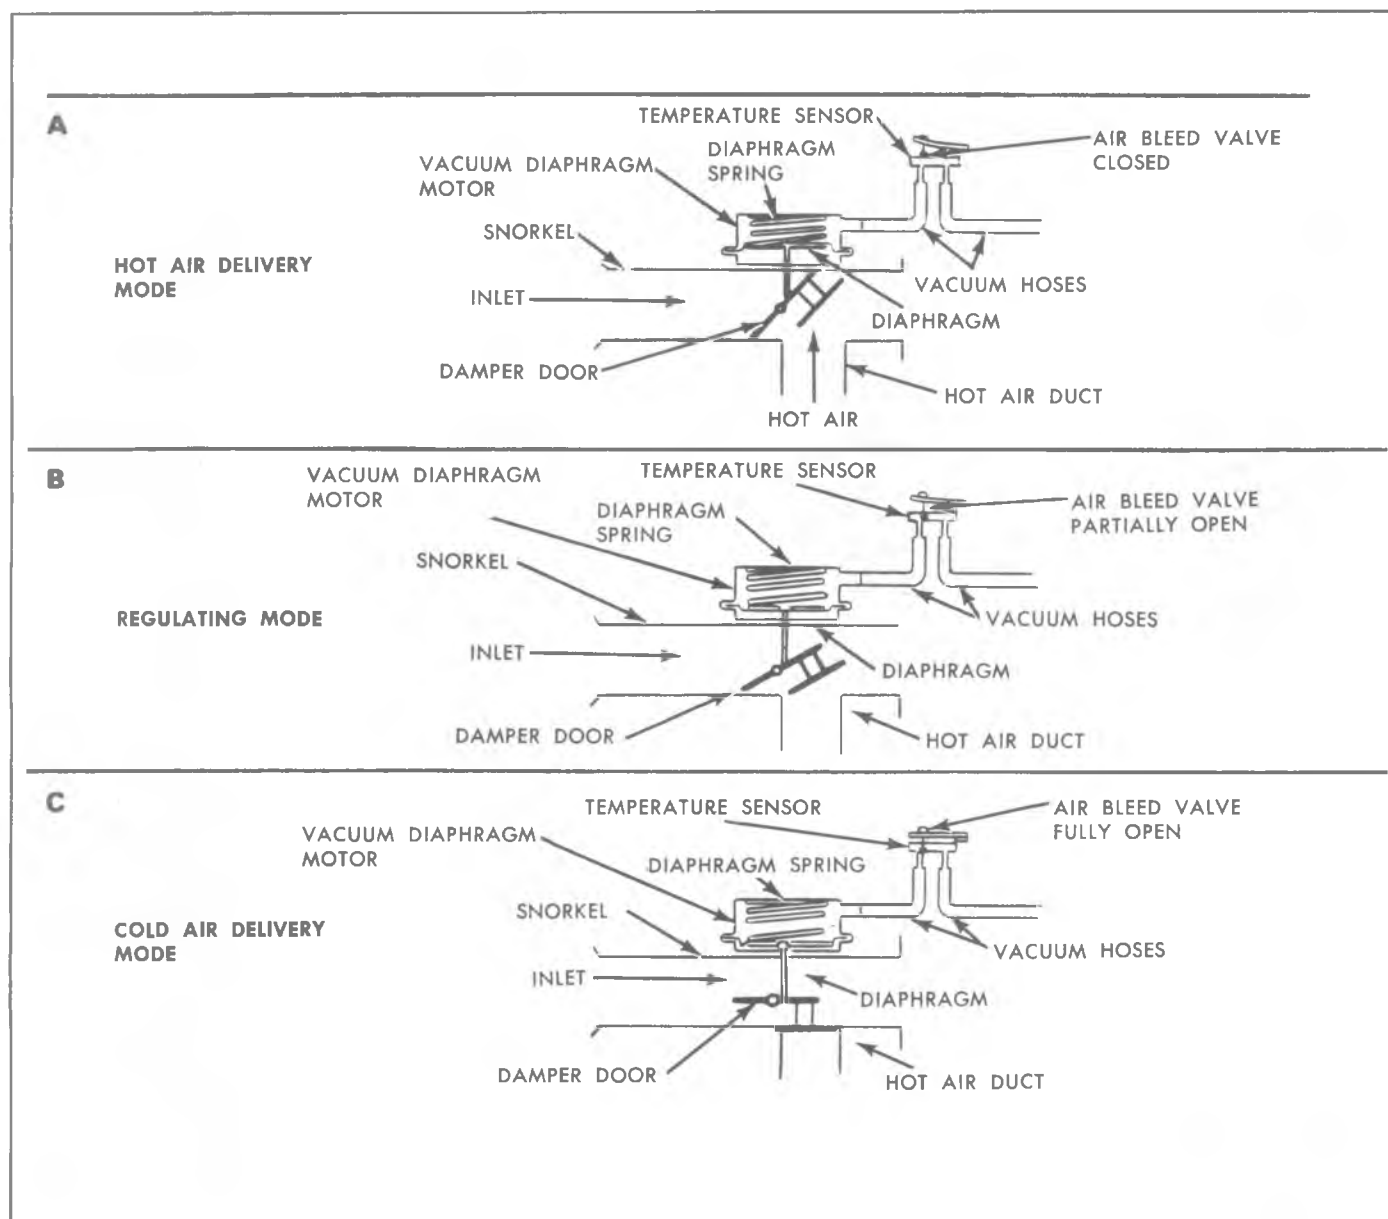

Fig. 6E-44--Preheated Air System Operation
3. Remove polywrap band from paper element and discard element (Fig. 6E-45).